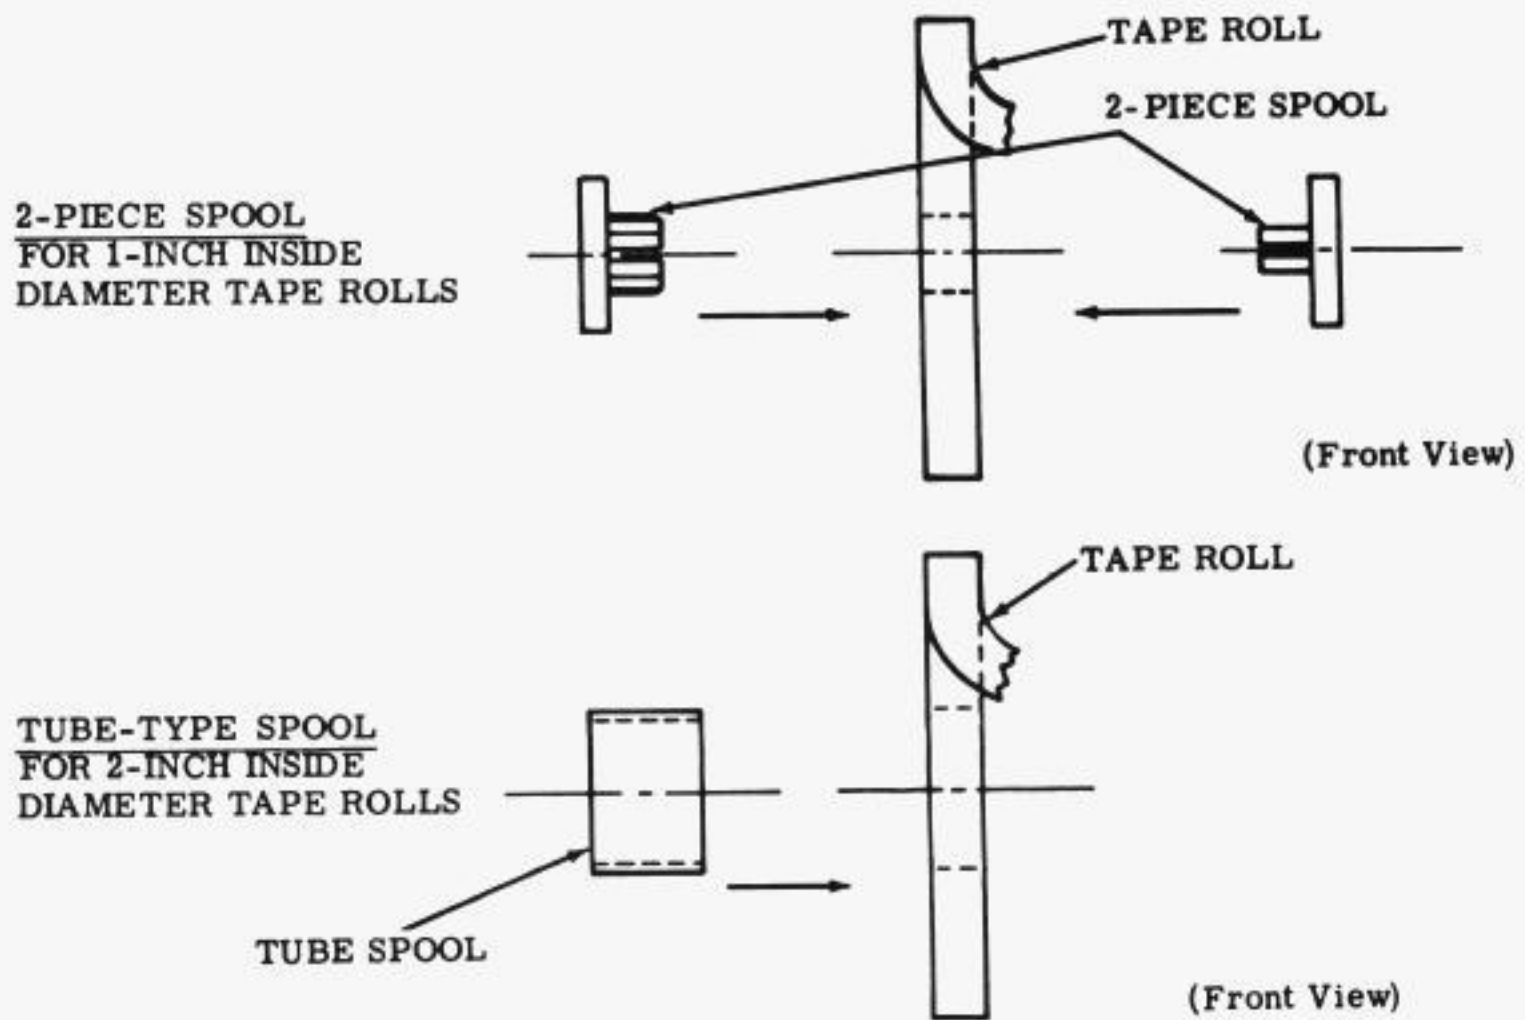

Figure 14 - Tape Roll and Tape Spool Assembly
7.02 Figure 14 illustrates the proper installation of a tape spool in a tape roll.